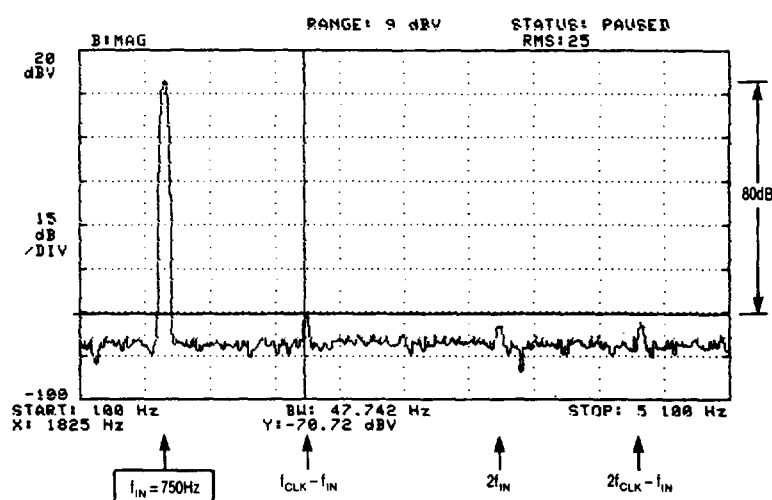

Figure 5A. Output Voltage Spectrum of 1/2 LTC1051 Operating as an Inverting Amplifier with Gain of 10, and Amplifying a 750Hz, 800mV Input AC Signal.
2. If we arbitrarily accept that "aliasing" occurs when output alias signals reach an amplitude of 0.01% or more of the output signal, then: The approximate minimum frequency of an AC input signal which will cause aliasing is equal to the internal clock frequency multiplied by the square root of the op amp feedback factor. For instance, with closed loop gain of -10, the feedback factor is 1/11, and if $f_{CLK} = 2.6\text{kHz}$, alias signals can be detected when the frequency of the input signal exceeds 750Hz to 800Hz, Figure 5A.